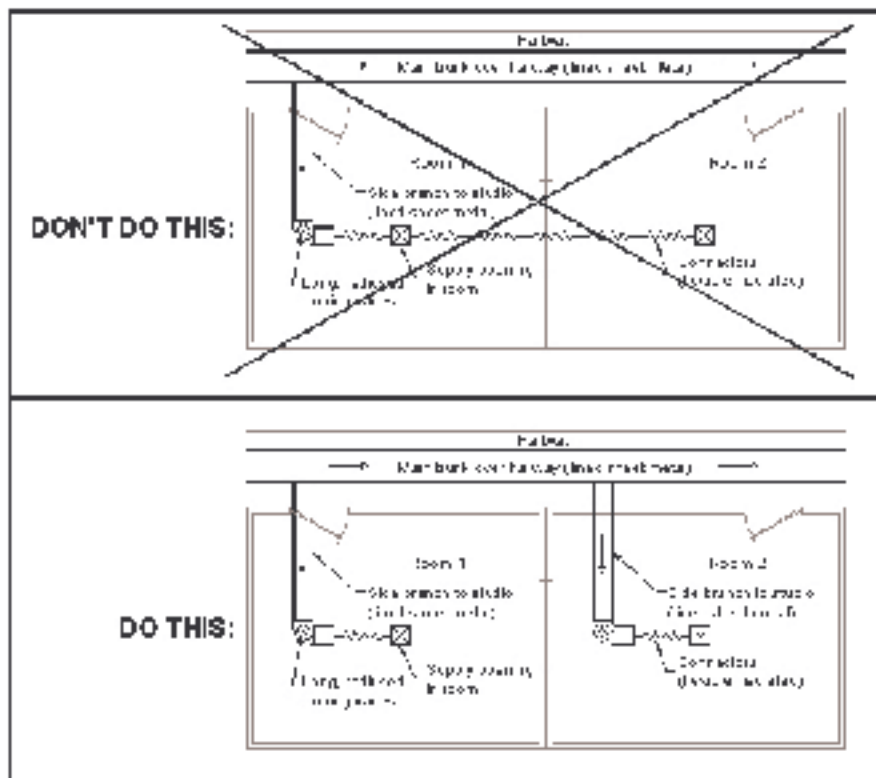

Figure 4.5: Method to properly interconnect HVAC systems between studio rooms ("daisy-chaining" is strongly discouraged)
- If installing a new HVAC system and ductwork, make sure that you do not have ducts "daisy-chaining" between adjacent studio rooms that are fed by the same main trunk. Instead, add an additional trunk line and feed each other room as shown in *Figure 4.5*.